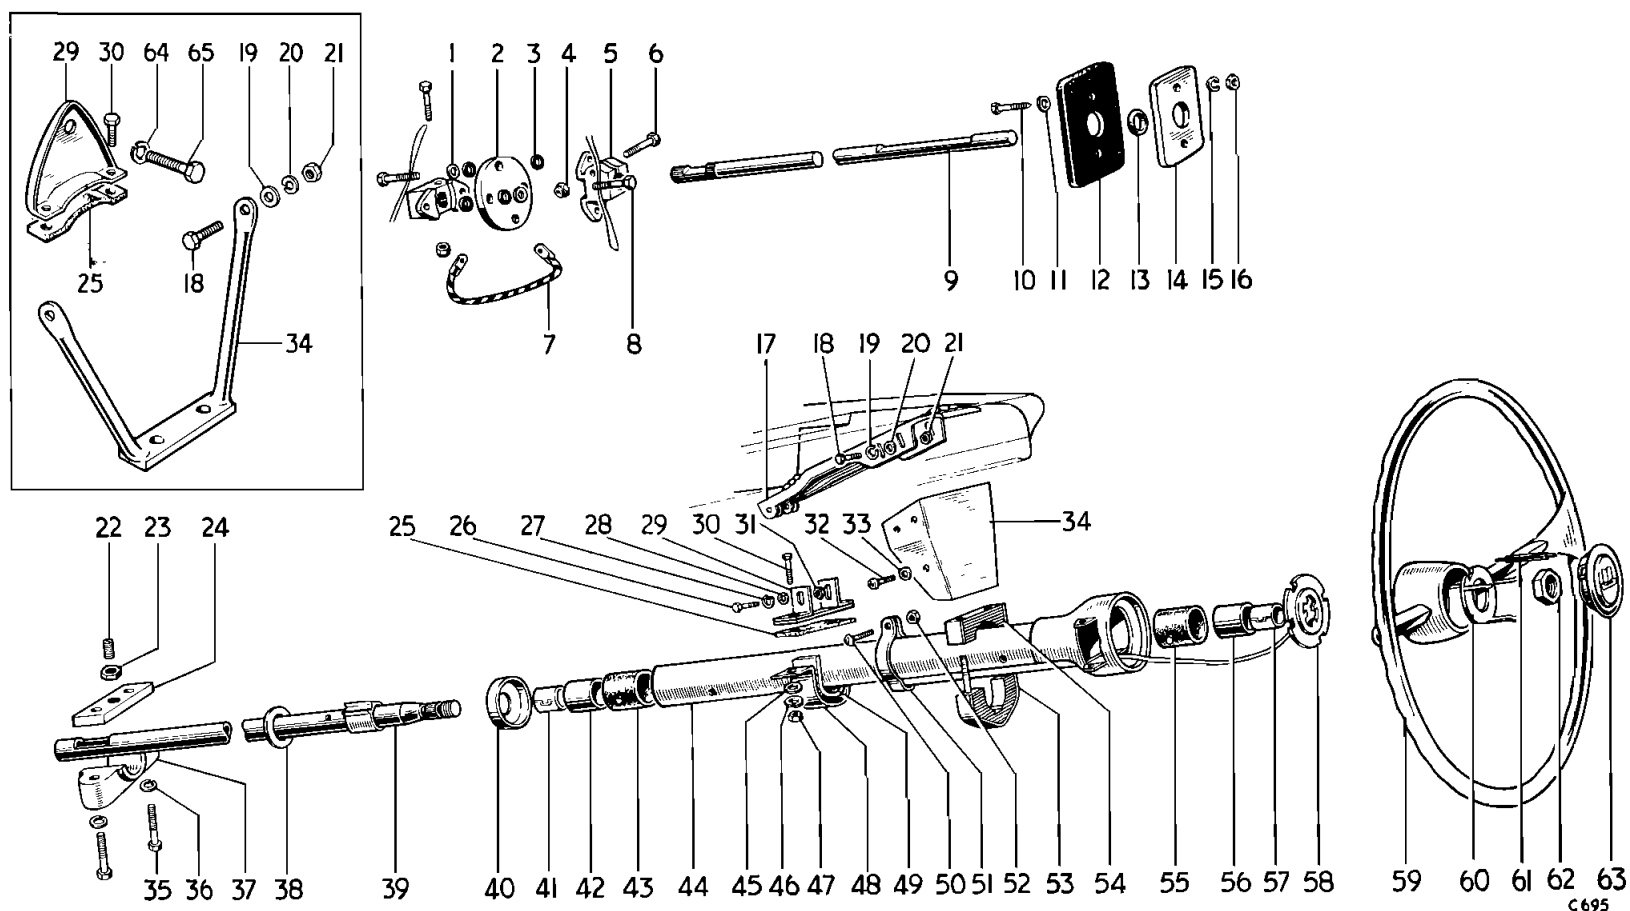

Fig. 20. Exploded arrangement of steering column
## Key to Fig. 20
3. Referring to Figs. 20 and 23, remove the outer column support clamp (48) (lower) and the lower portion of the steering column upper clamp (53).